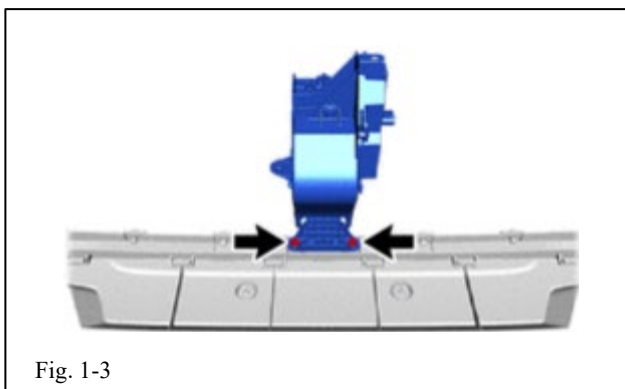

Fig. 1-3
- (i) Remove and discard front spoiler link motor bolts (Fig. 1-3).